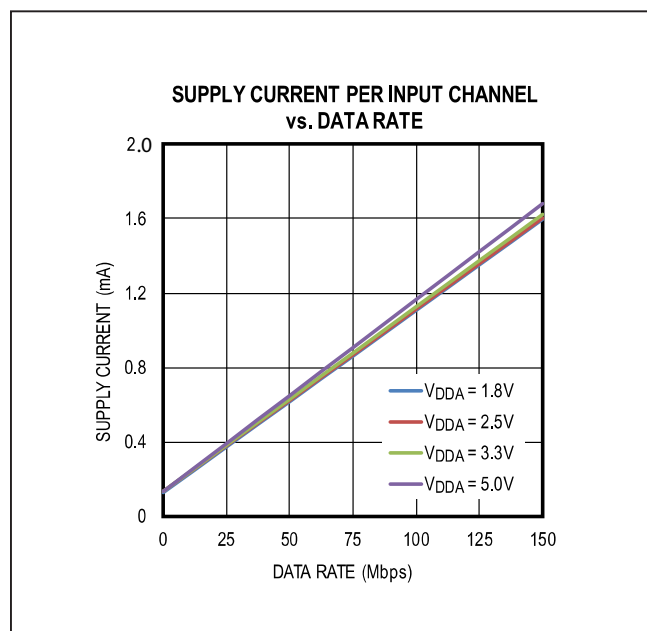
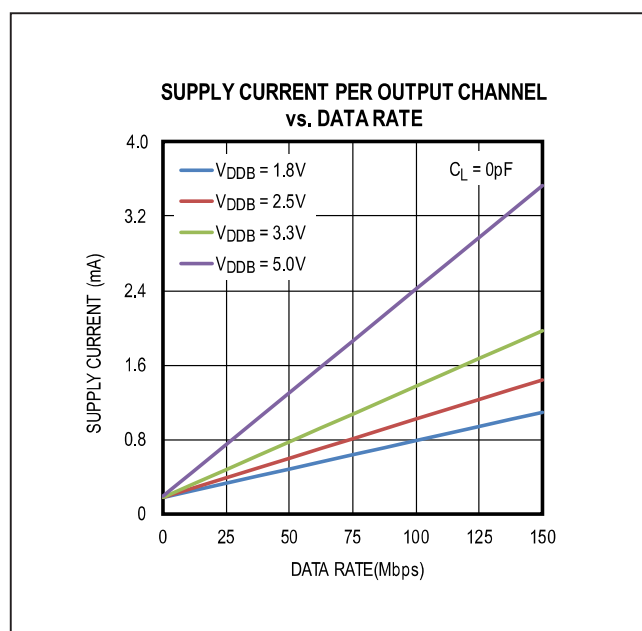

Figure 6. Supply Current Per Input Channel (Estimated)
Figure 7. Supply Current Per Output Channel (Estimated)
The required current for a given supply ( $V_{DDA}$  or  $V_{ddb}$ ) can be estimated by summing the current required for each channel. The supply current for a channel depends on whether the channel is an input or an output, the channel's data rate, and the capacitive or resistive load if it is an output. The typical current for an input or output at any data rate can be estimated from the graphs in Figure 6 and Figure 7. Please note the data in Figure 6 and Figure 7 are extrapolated from the supply current measurements in a typical operating condition.
The total current for a single channel is the sum of the “no load” current (shown in Figure 6 and Figure 7) which is a function of Voltage and Data Rate, and the “load current,” which depends on the type of load. Current into a capacitive load is a function of the load capacitance, the switching frequency, and the supply voltage.
- Channel 1 is an input channel operating at 2.5V and 20Mbps, consuming 0.33mA, estimated from Figure 6.
- Channel 2 and 3 are input channels operating at 2.5V with DC signal, consuming 0.13mA, estimated from Figure 6.
- Channel 4 is an output channel operating at 2.5V and 100Mbps, consuming 1.02mA, estimated from Figure 7.
- Channel 1 is an output channel operating at 3.3V and 20Mbps, consuming 0.42mA, estimated from Figure 7.
- Channel 2 and 3 are output channels operating at 3.3V with DC signal, consuming 0.18mA, estimated from Figure 7.
- Channel 4 is an input channel operating at 3.3V and 100Mbps, consuming 1.13mA, estimated from Figure 6.